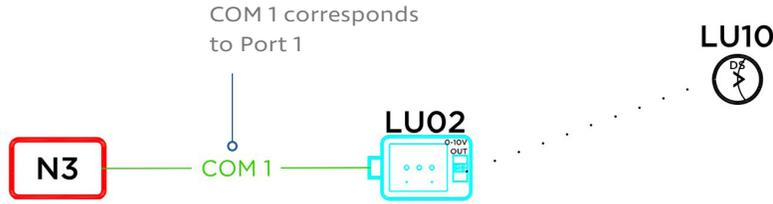

fig. 133
- 4 Consult the **Ketra submittal** to see which port the photocell is wired to. There are 4 Analog I/O ports on the N3 Satellite. In the Ketra submittal, "COM1" corresponds to Port 1, "COM2" to Port 2, etc. (See fig. 133, next page.)